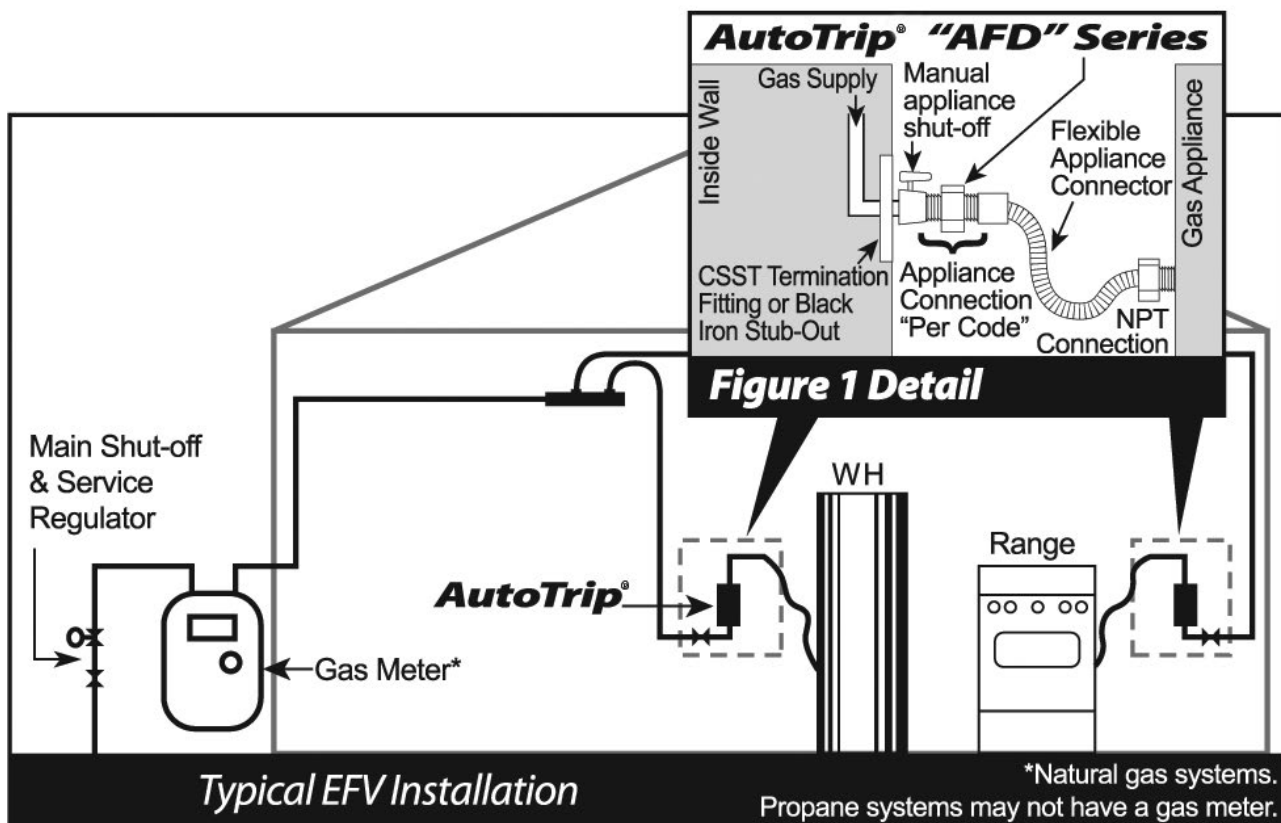

FIGURE: C-2
1. Application. Determine the Type of EFV based on the application – for the AFD Series the application will be to install the EFV at the inlet to a flexible appliance connector (See Figure: C-2).